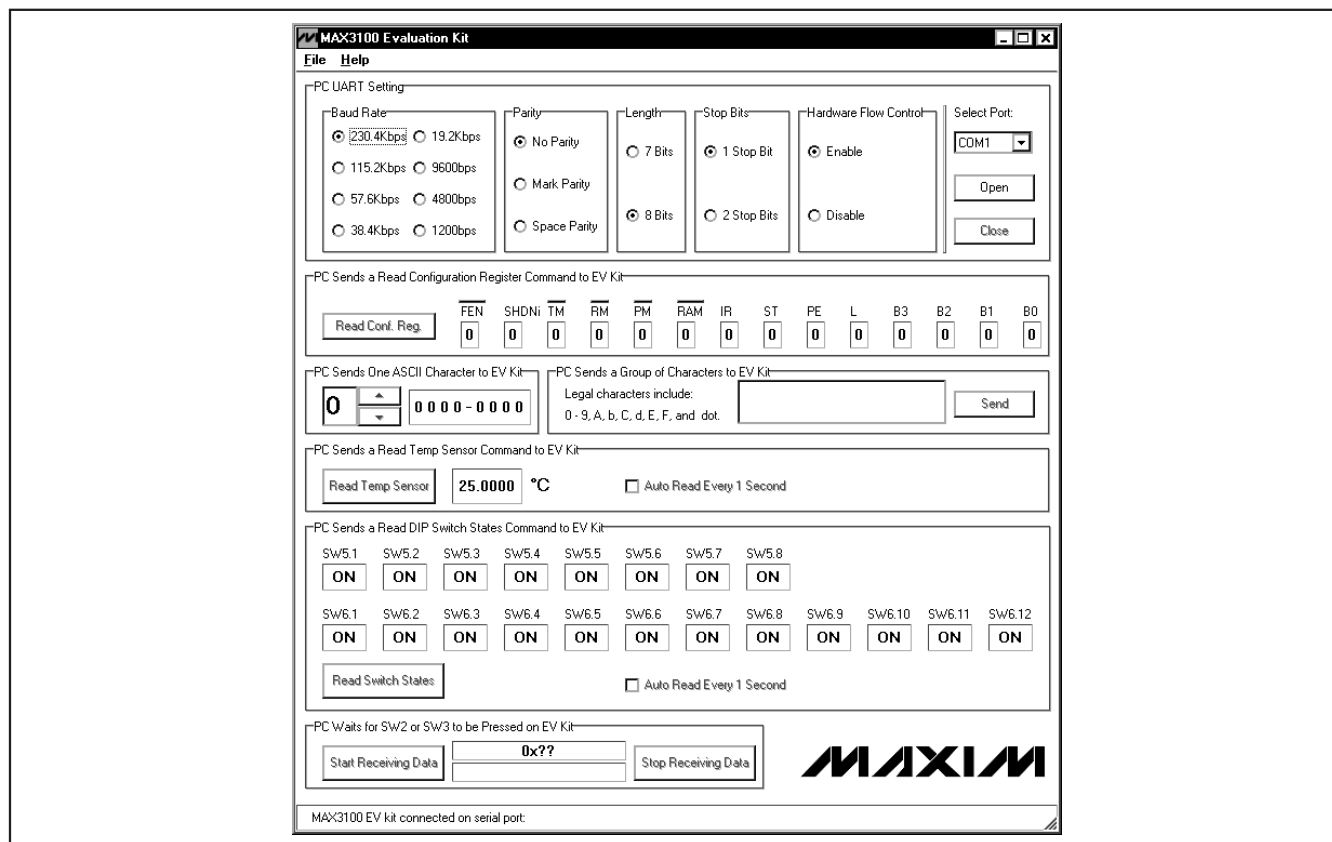

Figure 1. Software Main Window
- 8) Start the MAX3100 EV kit software by opening its icon in the **Start | Programs** menu. The EV kit software main window appears, as shown in Figure 1.
The software main window includes seven group boxes, as shown in Figure 1.